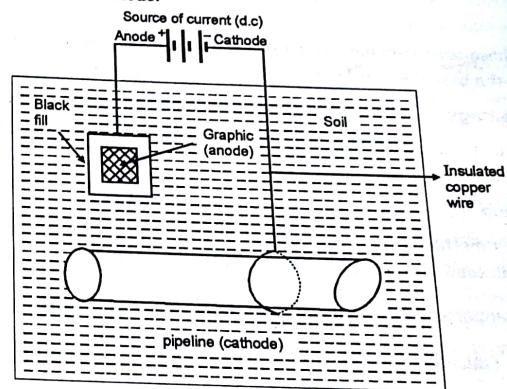

Fig. 1.5.3 : Corrosion control by impressed current method
- In this method, as shown in Fig. 1.5.3, the insoluble anodic metal used (i.e. platinum, steel, scrap iron etc.) is normally *embedded* in the *underground*. To this, with the help of d.c. current source, the impressed current is applied, and whole of this assembly is connected to the metallic structure to be protected.